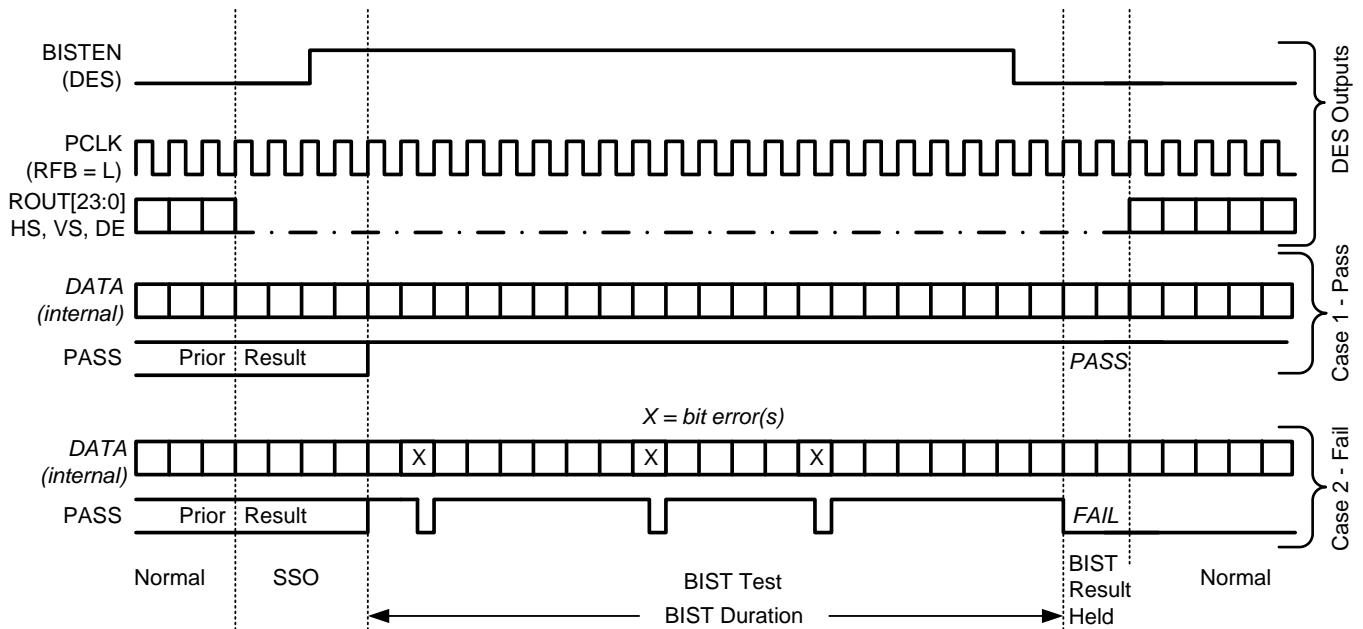

Figure 18. Bist Waveforms
4. The Link returns to normal operation after the deserializer BISTEN pin is low. Figure 18 shows the waveform diagram of a typical BIST test for two cases. Case 1 is error free, and Case 2 shows one with multiple errors. In most cases it is difficult to generate errors due to the robustness of the link (differential data transmission etc.), thus they may be introduced by greatly extending the cable length, faulting the interconnect, reducing signal condition enhancements ( Rx Equalization).